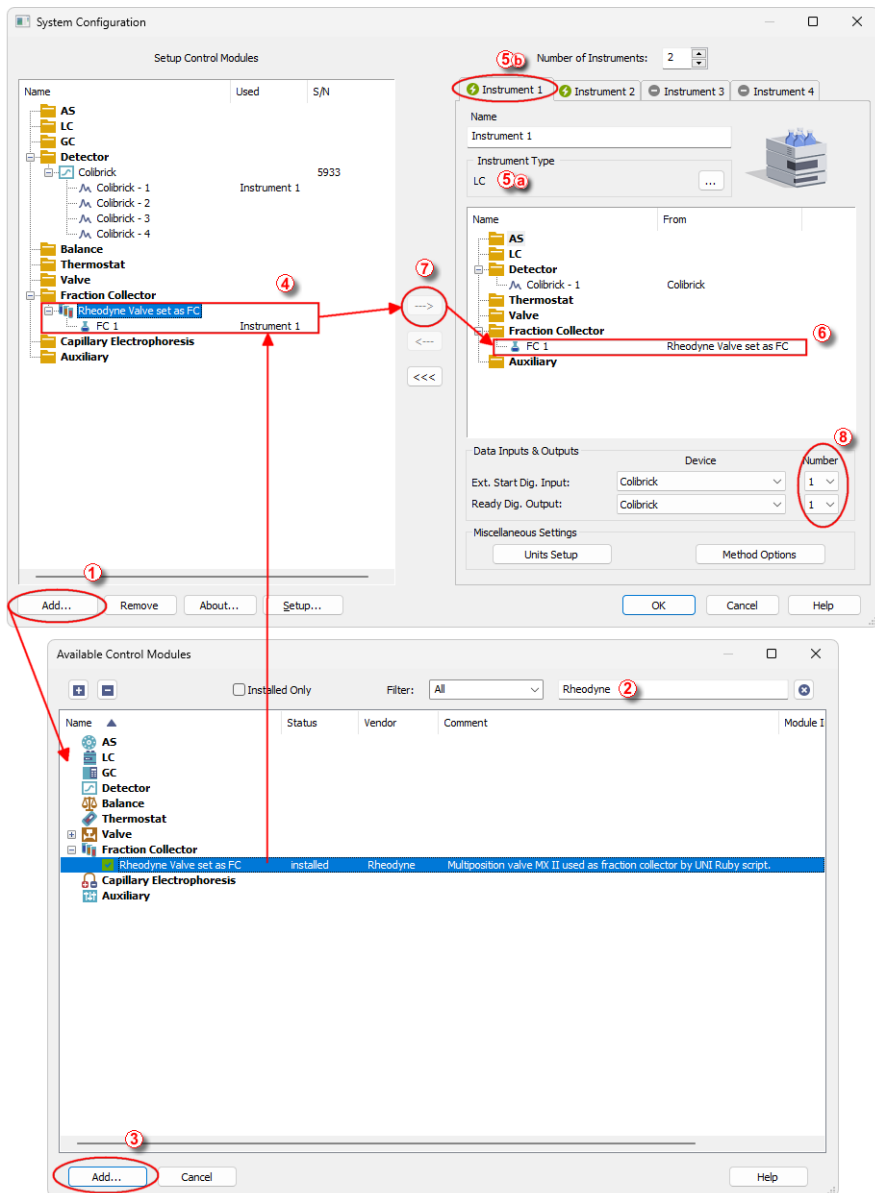

Fig. 2: How to add FC by Rheodyne Valve
- Press the *Add* button (① on **Fig. 2** on pg. 4.) to invoke the *Available Control Modules* dialog.
- You can specify the search filter (②) to simplify the finding of the driver.
- Select the correct item and press the *Add* (③ on **Fig. 2** on pg. 4.) button. Each device with already created UNI profile should have its own item named accordingly in the *Available Control Modules* dialog.